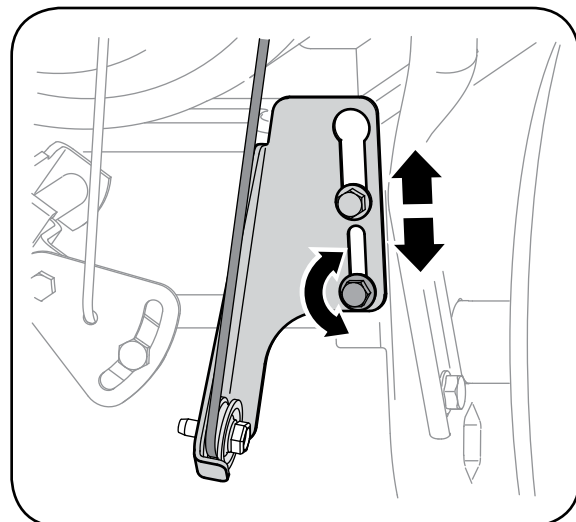

Figure 4
5. Loosen the lower hex nut on the drive cable bracket. See Figure 4.